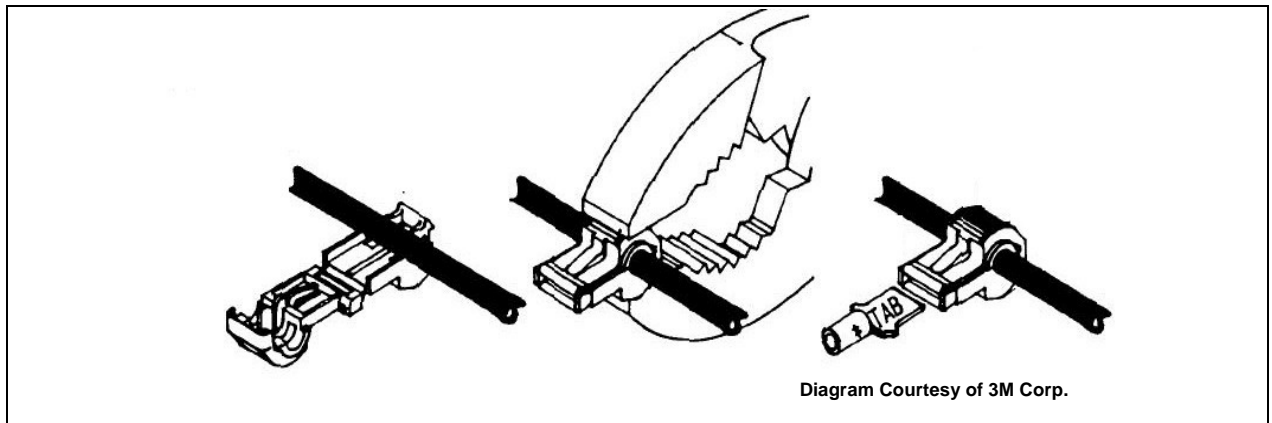

Figure 10-7: Attaching T-Tap Terminals to a Switched Power Wire
9. Attach the selected T-tap terminal by fitting the wire into its wire groove and snapping the two halves together with a pair of pliers as shown in Figure 10-7.